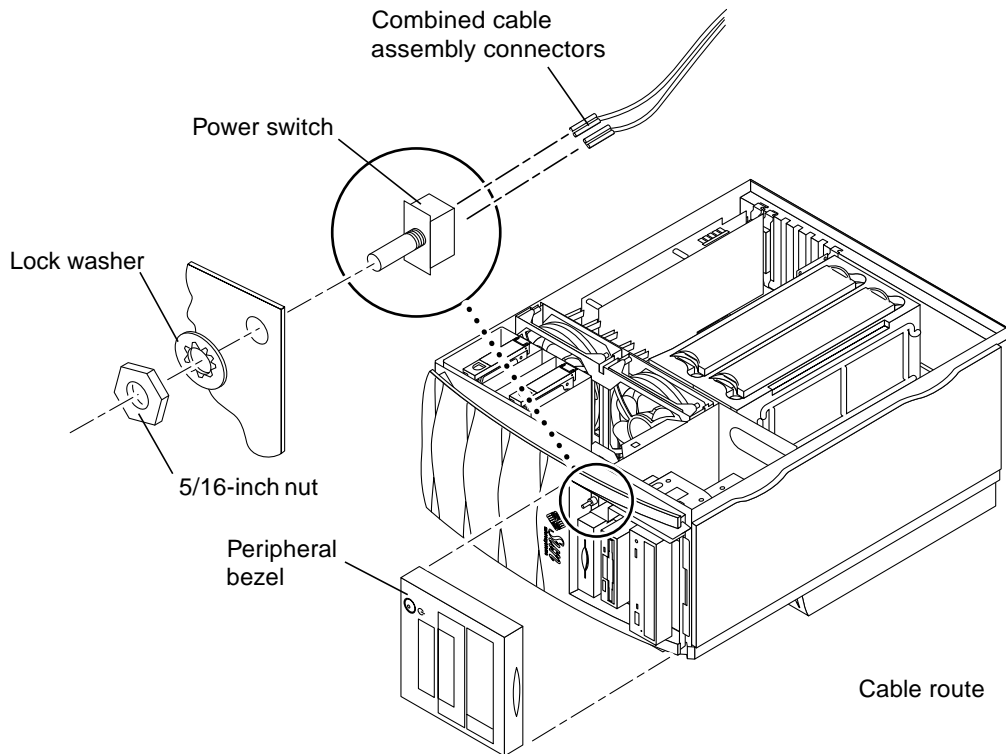

FIGURE 6-5 Removing and Replacing the Power Switch Assembly
3. **Using a 5/16-inch nutdriver, remove the nut securing the power switch assembly to the chassis (FIGURE 6-5).**
1. Position the power switch assembly in the chassis cutout (FIGURE 6-5).